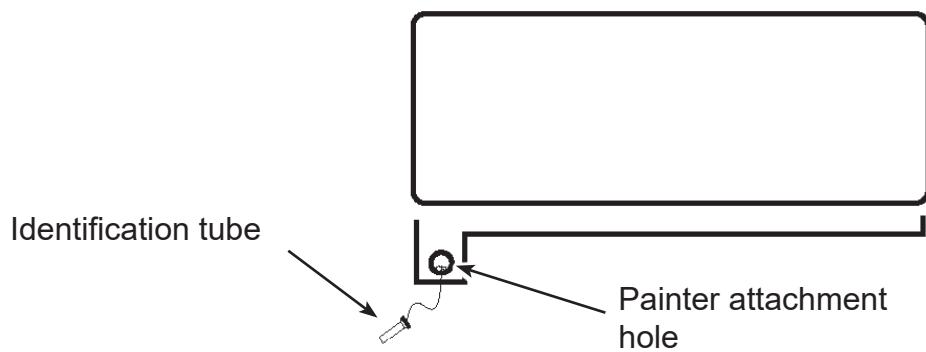

FIGURE 899P
- 1.1 Use a bowline knot to tie the identification tube to the painter attachment hole on the H-Pack. Refer to **Figure 899P**.
- 9.44 Use a bowline knot to tie the identification tube to the painter attachment hole on the H-Pack. Refer to **Figure 899P**.